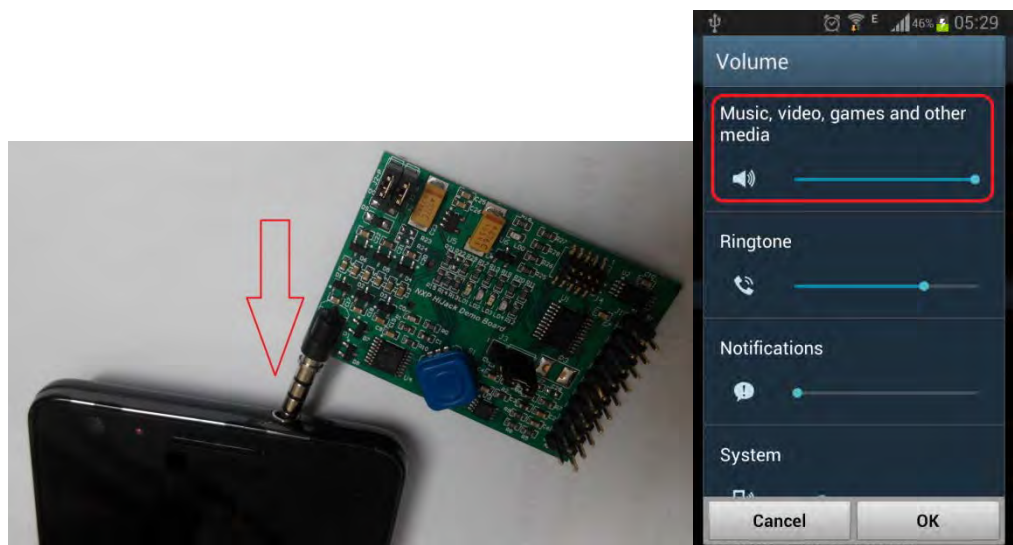

Fig 23. Phone's media-volume/headset-volume set to maximum
3. Insert the Quick-Jack board in the phone's audio jack. Then, configure the media-volume/headset-volume on the phone to maximum volume (Fig 23).